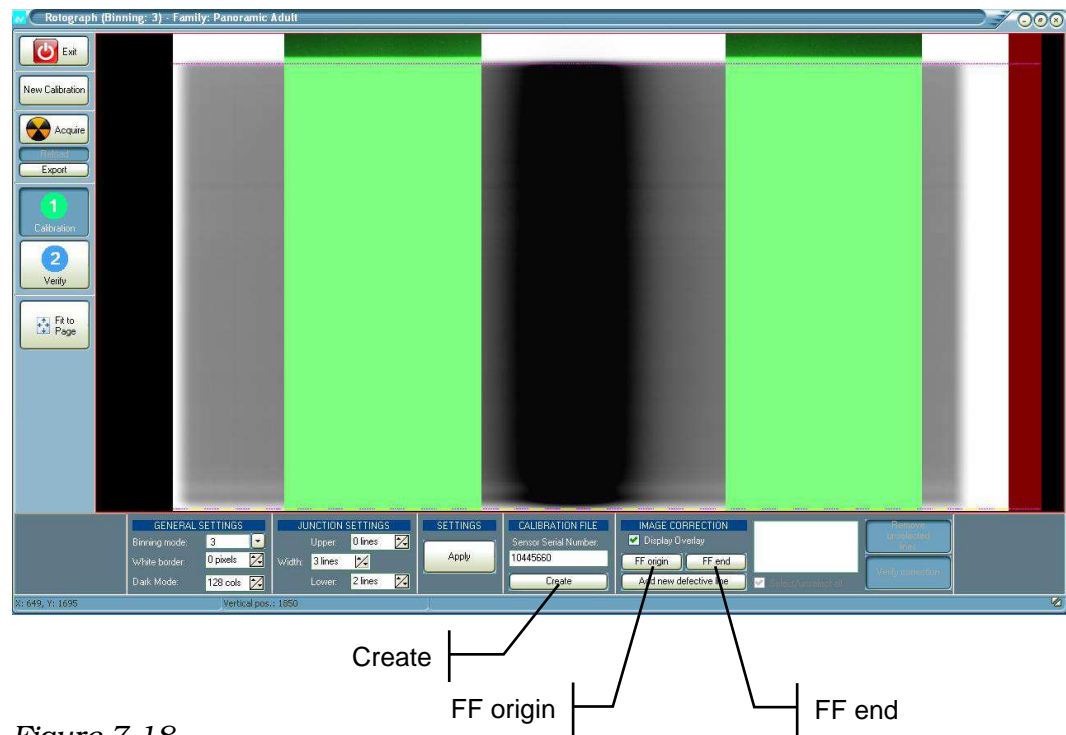

Figure 7-18
- 10.** Holding pressed the "Ctrl" button on the keyboard, with the mouse left click on the upper limit of the exposed area: a dashed line will be added indicating the current selection. Press button "FF origin" (Figure 7-18) to save the current selection.
- 11.** Holding pressed the "Ctrl" button on the keyboard, with the mouse left click on the lower limit of the exposed area: a dashed line will be added indicating the current selection. Press button "FF end" (Figure 7-18) to save the current selection.
- 12.** Using the scroll wheel of the mouse, zoom the image and holding pressed the mouse left button, drag the image for finding possible defective lines. In case of defective lines, proceed as described in paragraph 7.3.4, otherwise press button "Create" (Figure 7-18), then "Save" to create (or replace if already present) the calibration file.
9. Holding pressed the "Ctrl" button on the keyboard, with the mouse left click on the upper limit of the exposed area: a dashed line will be added indicating the current selection. Press button "FF origin" (Figure 7-18) to save the current selection.
- 10.** Holding pressed the "Ctrl" button on the keyboard, with the mouse left click on the lower limit of the exposed area: a dashed line will be added indicating the current selection. Press button "FF end" (Figure 7-18) to save the current selection.
- 11.** Using the scroll wheel of the mouse, zoom the image and holding pressed the mouse left button, drag the image for finding possible defective lines. In case of defective lines, proceed as described in paragraph 7.3.4, otherwise press button "Create" (Figure 7-18), then "Save" to create (or replace if already present) the calibration file.